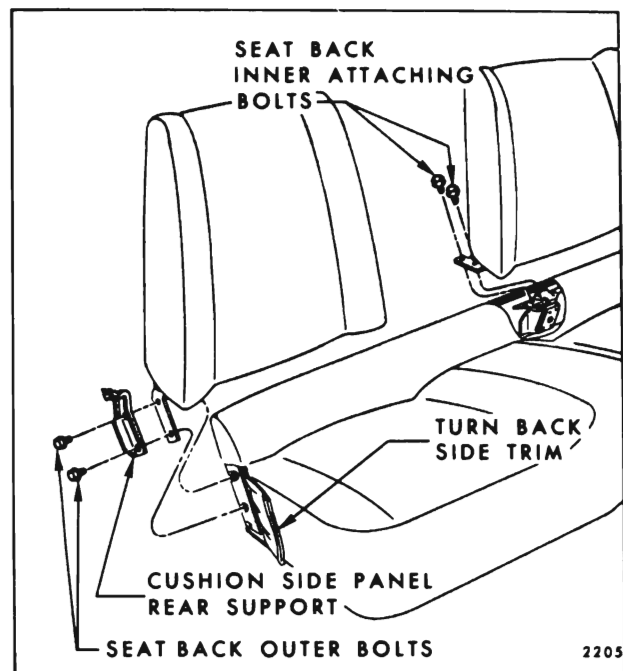

Fig. 15-31—Strato Full Width Seat Back Attachment
2. At side of seat from which seat back is being removed, remove hog rings securing cushion side trim at rear of seat and fold trim forward sufficiently to expose two seat back outer attaching bolts (Fig. 15-31).
5. To install seat back assembly, reverse removal procedure. Make certain seat side panel support (Fig. 15-31) is secured under seat back outer attaching bolts.
2. Remove seat side panel on side from which seat back is being removed. Remove hog rings securing seat cushion trim side facing at rear of seat and turn side facing forward sufficiently to expose seat back outer arm attaching bolts (Fig. 15-31).
4. Remove seat back outer arm attaching bolts (Fig. 15-31).